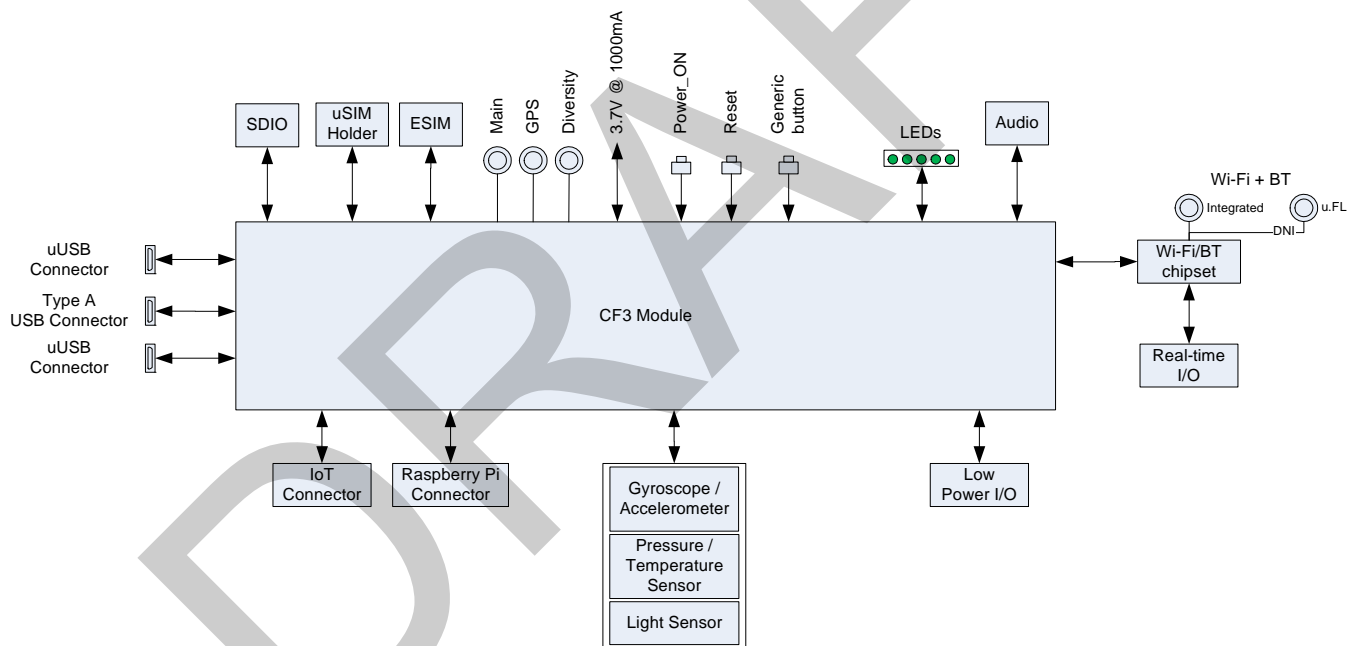
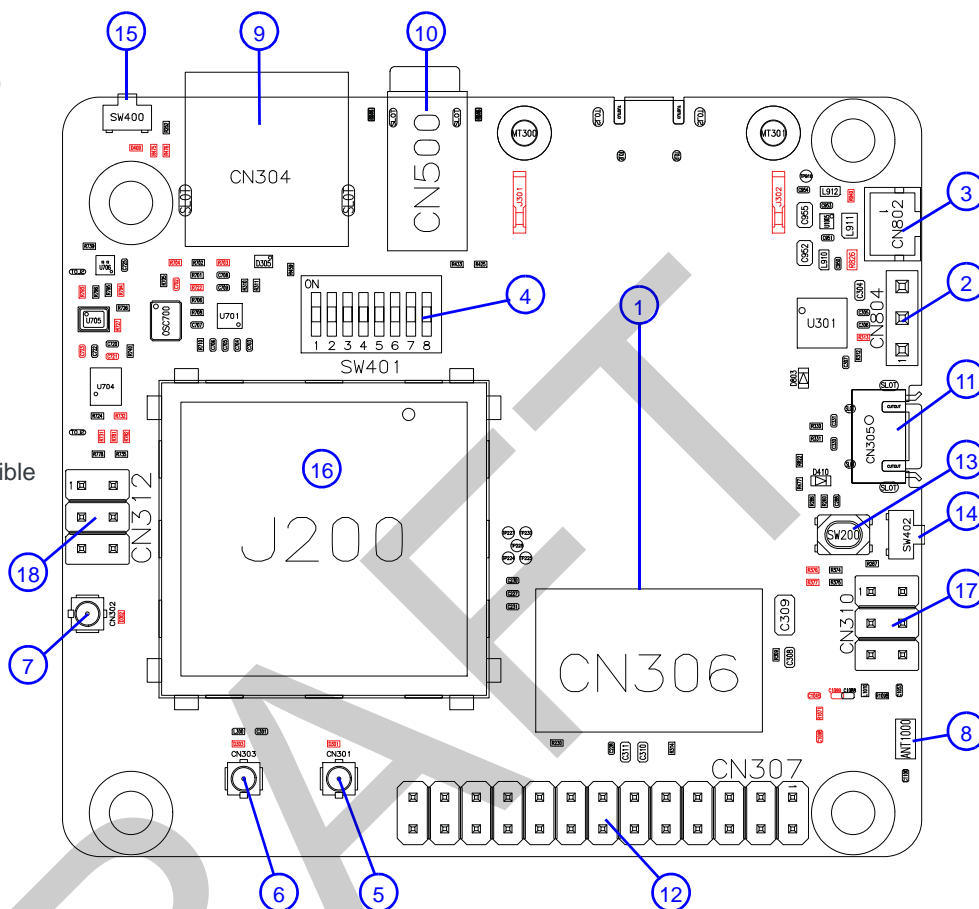
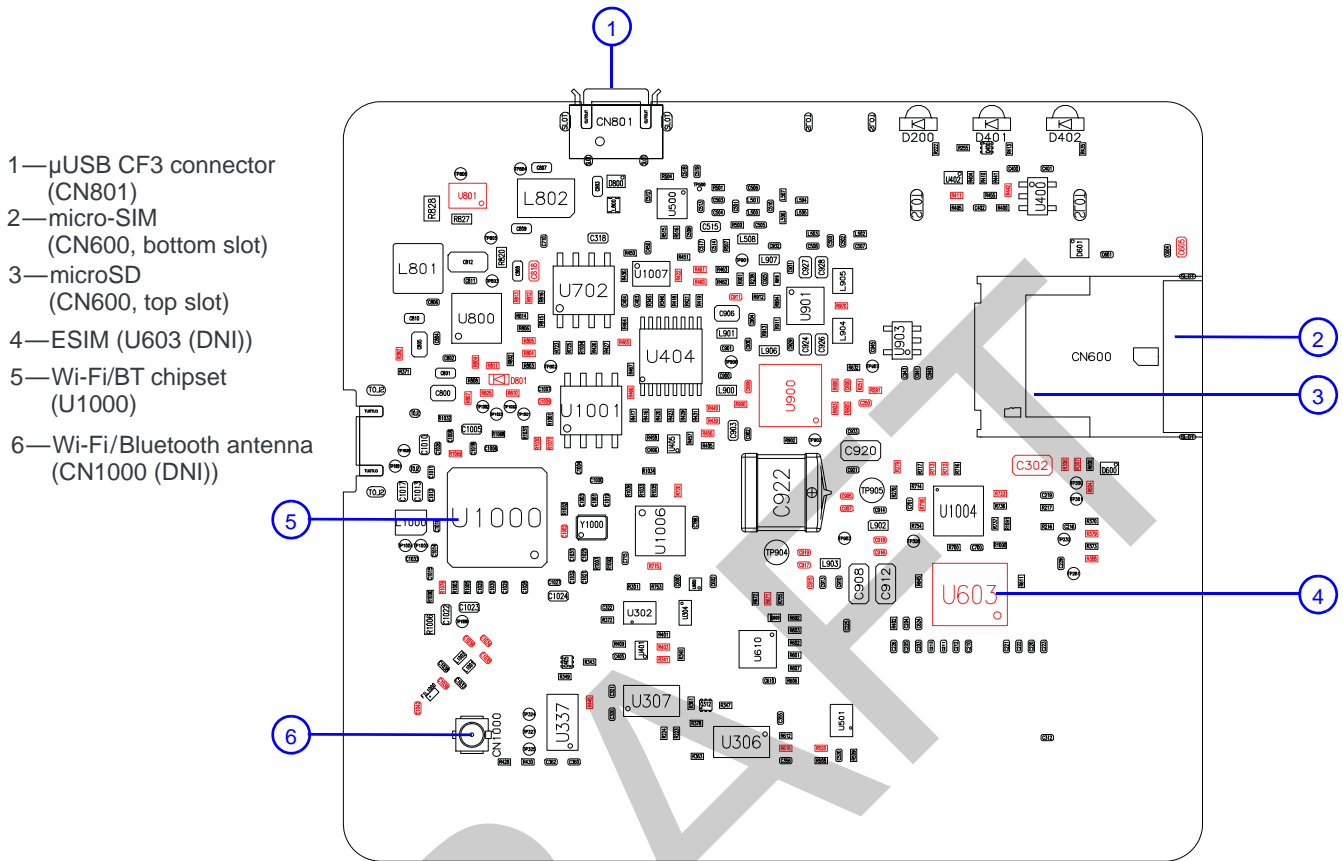

Figure 2-1: mangOH Red Hardware Components Overview
Figure 2-2: mangOH Red—Top Side Switches/Connectors
Figure 2-3: mangOH Red—Bottom Side Switches/Connectors
Figure 2-1 provides an overview of the mangOH Red’s hardware components relative to the CF3 module, and Figure 2-2 on page 7 and Figure 2-3 on page 8 shows their physical locations.
a. Board designators (e.g. CN311, SW401, etc.) are for reference against the published mangOH Red schematic. For component locations on the board, see Figure 2-2 on page 7 and Figure 2-3 on page 8.